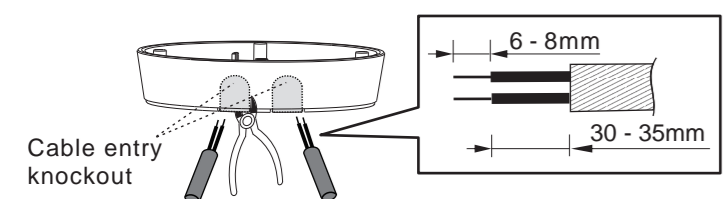

FIG.18
3.4.3.2 To feed AC power cables through the side of junction box, please use the cutting pliers to break the cable entry knockouts on the side of junction box, then insert cables into junction box and feed through it. Strip off 6 - 8mm of cable sheathing for wiring (See FIG.18).